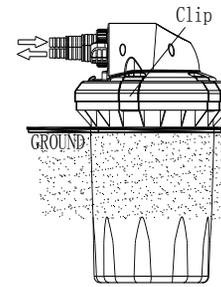

Figure 1
1. Choose a suitable place to install the filter An ideal location for the filter is on a flat, level out of sight surface near the pond. Dig a six inch deep channel from the lower basin to the filter and from the upper basin or waterfall to the filter. This channel will allow you to bury and conceal the tubing once connected. You will also need to dig a hole to partially bury the bio-filter, keeping it in an upright and level position. The filter can be buried in the ground up to the filter clips. (See figure 1)